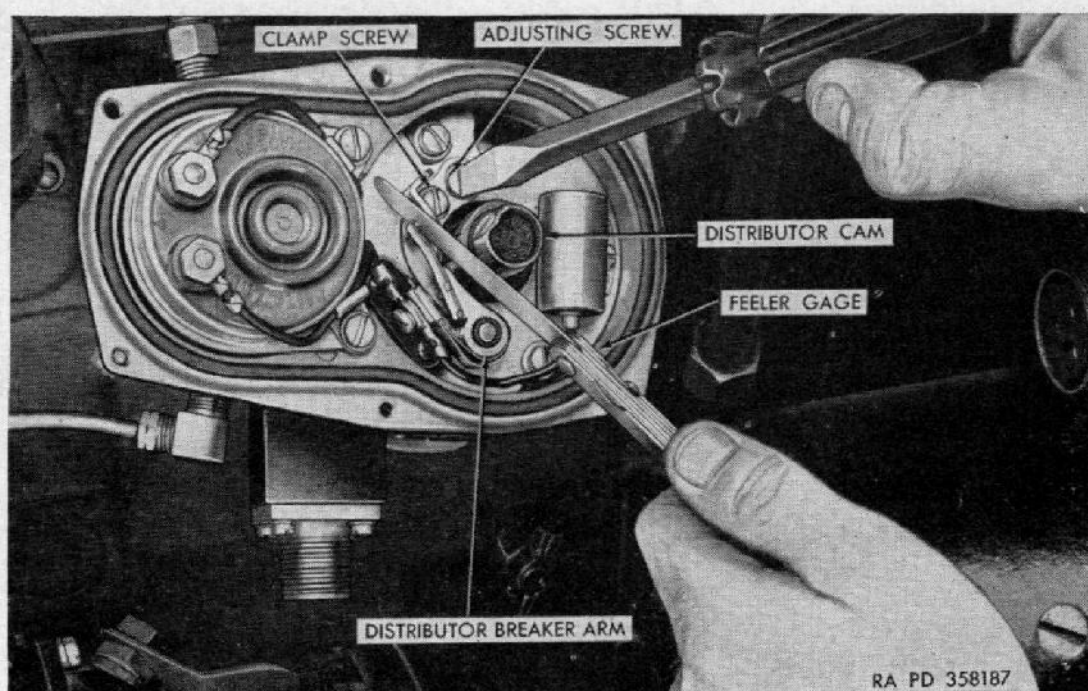

Figure 62. Adjusting distributor breaker points.
- (3) Turn engine over until breaker level pad comes to rest on the high point of the distributor cam (fig. 62) (points open). Measure distributor breaker point opening with a feeler gage (fig. 62). If the gap does not measure 0.020 inch, loosen clamp screw (fig. 62) and turn adjusting screw (fig. 62) to obtain correct opening. Tighten clamp screw. Install distributor rotor and install distributor cover, securing with six screws.